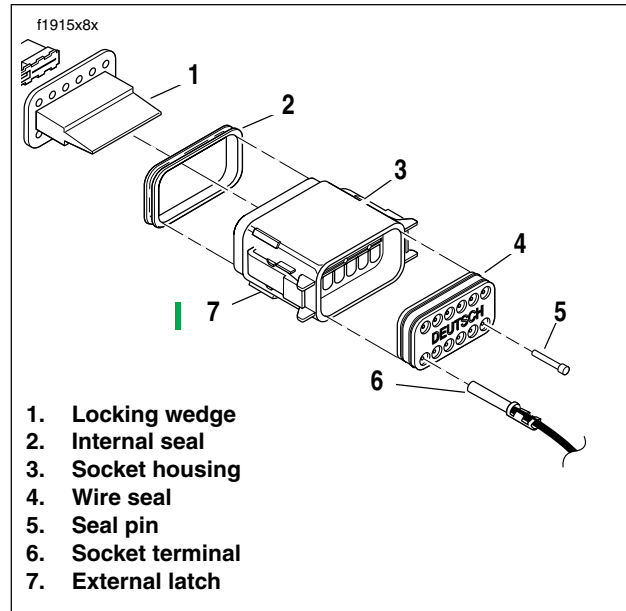

Figure 2-11. 12-place Deutsch Socket Side Connector
6. See Figure 2-11. Remove wires from socket side housings from socket terminal wires:
9. See Figure 2-11. Fit wire seal into back of Deutsch socket housings.